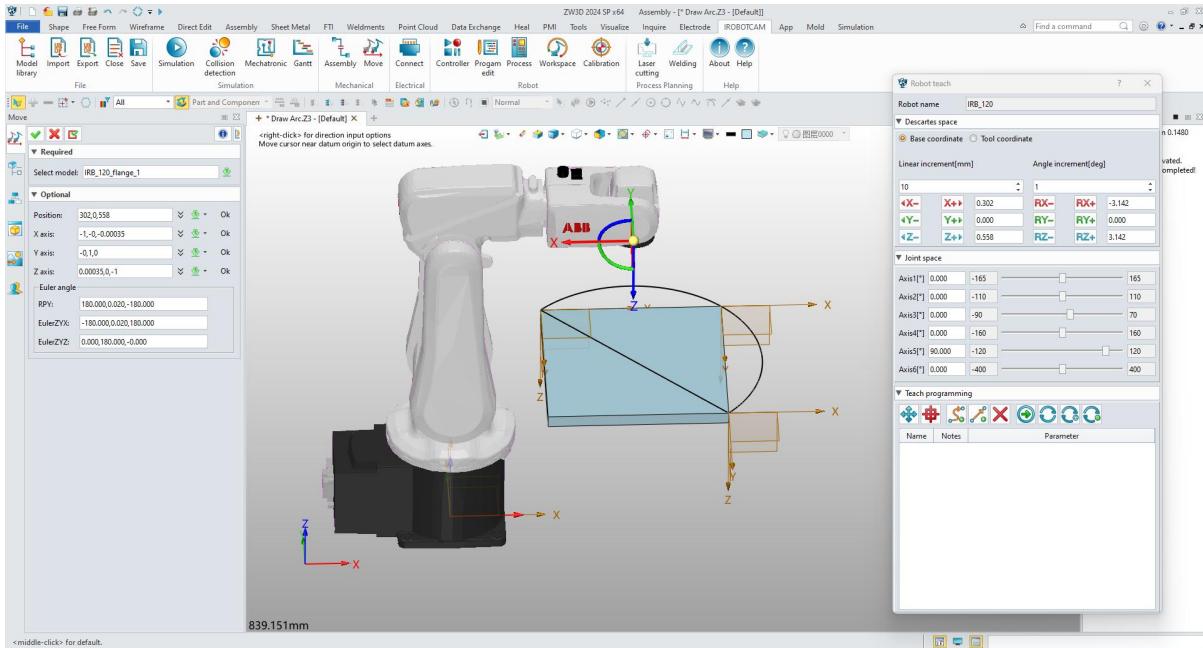

Figure 9-6: Teach Robot
- Right Initiating Teach Mode: Right-click on the robot and select "Teach Robot" from the context menu. This will activate the Teach Mode, allowing you to record robot movements and program its trajectory. (Figure 9-6)